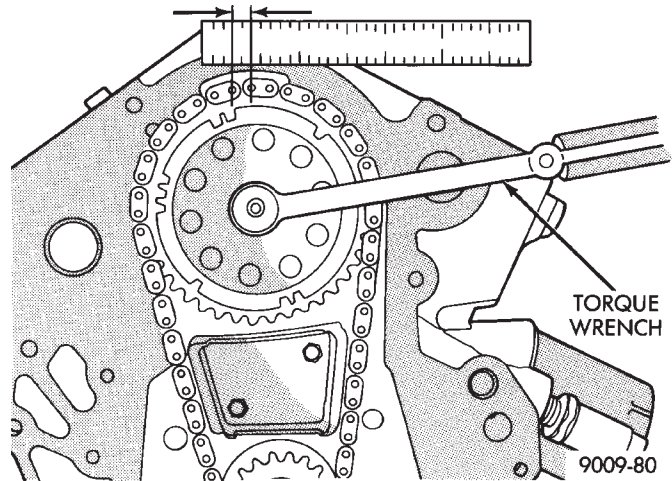

Fig. 4 Measuring Timing Chain Wear and Stretch
(1) Place a scale next to timing chain so that any movement of chain may be measured.
(2) Place a torque wrench and socket on camshaft sprocket attaching bolt and apply torque in direction of crankshaft rotation to take up slack; 41 N•m (30 ft. lb.) with cylinder head installed or 20 N•m (15 ft. lb.) with cylinder heads removed. **With a torque applied to the camshaft sprocket bolt, crankshaft should not be permitted to move. It may be necessary to block crankshaft to prevent rotation.**
(3) Holding a scale even, with dimension reading as shown (Fig. 4), along edge of chain links. Apply torque in the reverse direction to 41 N•m (30 ft. lbs.) with cylinder heads installed, or 20 N•m (15 ft. lbs.) with cylinder heads removed. Check amount of chain movement (Fig. 4).
(4) Install a new timing chain, if its movement exceeds 3.175mm (1/8 inch) (Fig. 4).
(5) If chain is not satisfactory, remove camshaft sprocket attaching bolt, and remove timing chain with camshaft sprocket.
(6) Using a suitable puller remove the crankshaft sprocket. Be careful not to damage the crankshaft surface.
(7) Position a new crankshaft sprocket on the shaft, install sprocket with suitable tool and mallet. Be sure sprocket is seated into position.
(8) Rotate crankshaft so the timing arrow is to the 12 O'clock position.
(9) Place timing chain around camshaft sprocket and place the timing mark to the 6 O'clock position.
(10) Align the dark colored links with the dot on the camshaft sprocket, place timing chain around crankshaft sprocket with the dark colored link lined up with the dot on the sprocket and install camshaft sprocket into position.